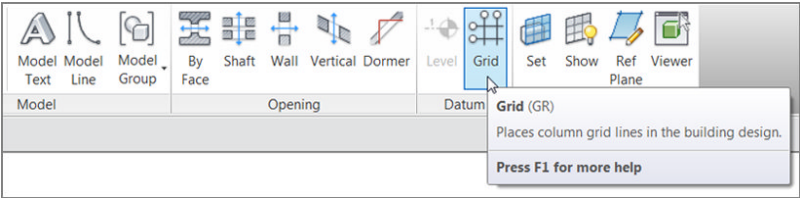

FIGURE 8.1: The Grid button on the Datum panel of the Structure tab
- 3. The Datum panel that holds the Level and Grid tools appears on both the Architecture and Structure tabs. On the Datum panel of the Structure tab, click the Grid button, as shown in Figure 8.1.